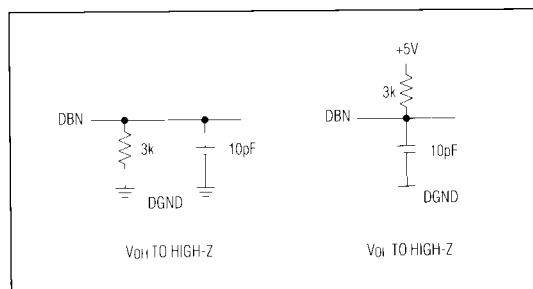

Figure 4. Load Circuits for Output Three-State Delay Test ( $t_{14}$ )
**Note 8:** t12, the time required for the data lines to change 0.5V, is measured with the load circuits of Figure 4.